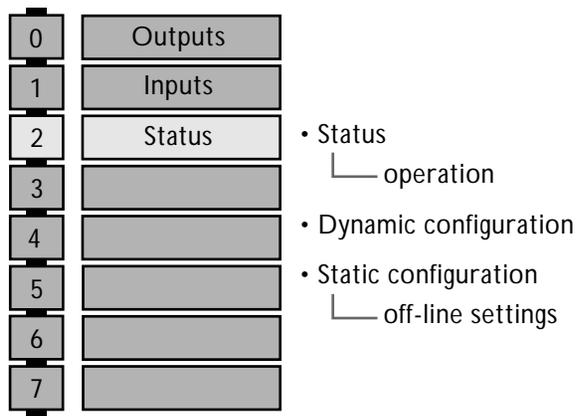

Figure 1-23. The contents of a MicroLogix 1000's status file.
- *File 2* is the status file. It stores information about how the PLC is operating and how it is set up. This file contains 33 words that hold three types of data: basic status data, dynamic configuration data, and static configuration data (see Figure 1-23).